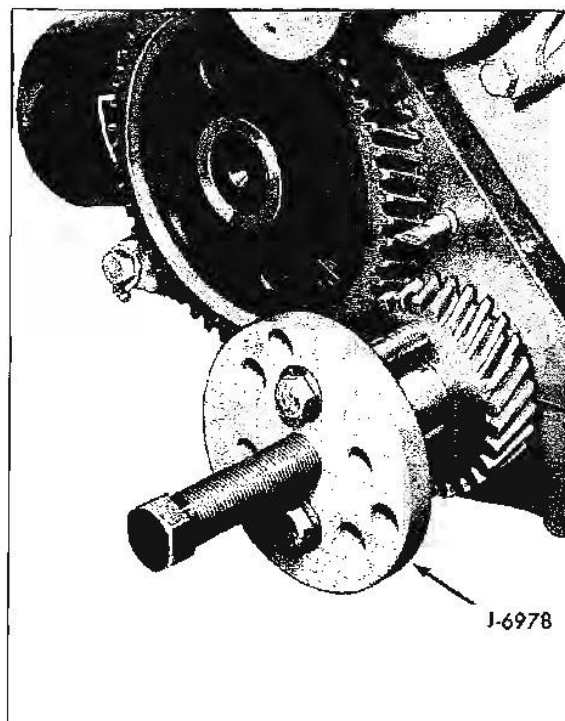

Fig. 6-70 Tool J-6978 Installed for Removing Crankshaft Timing Gear
2. Remove transmission, clutch (SM) and starter from engine.
9. Remove crankshaft timing gear with tool J-6978 (Fig. 6-70).